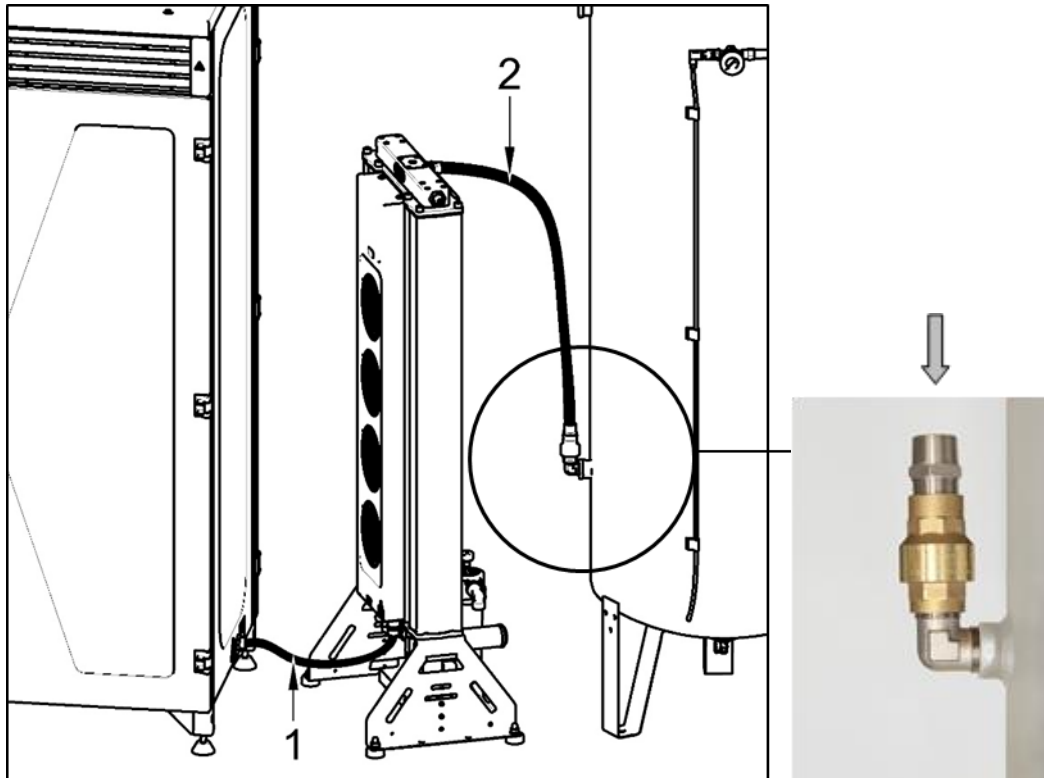

Fig. 10: Connecting the enclosed compressor module, dryer and air tank
- Connect to the compressor outlet (Fig. 10).